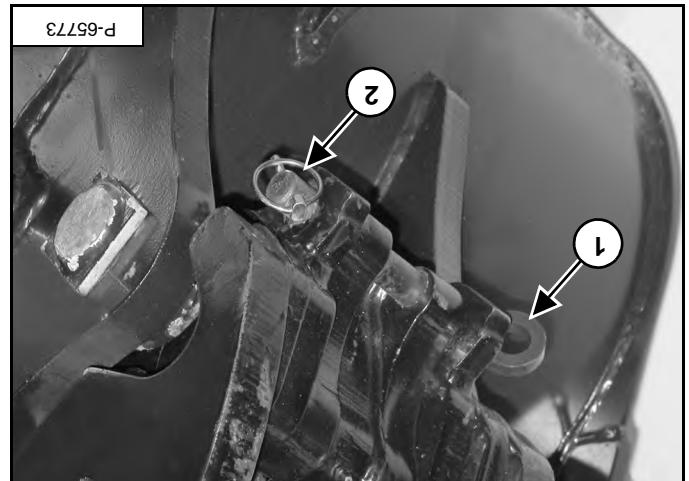

Figure 96
Check for secure attachment. Never operate without retainer pins (item 2) [Figure 96] installed.
Install the locking pin (item 1) and retainer pin (item 2) [Figure 96] and remove the release bar.